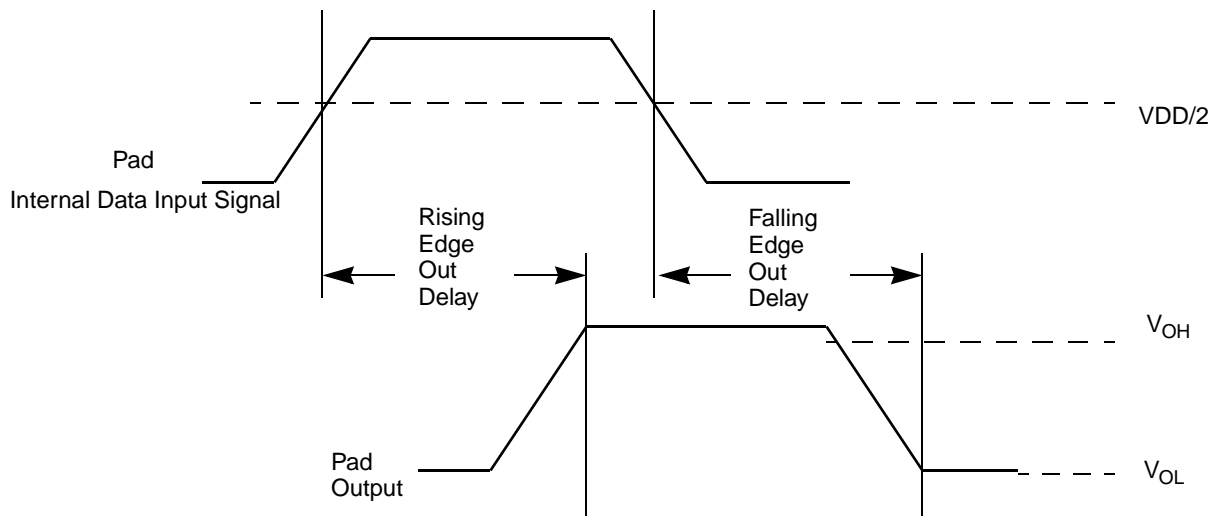

Figure 6. Pad Output Delay
- ⁸ Output delay is shown in Figure 6. Add a maximum of one system clock to the output delay for delay with respect to system clock.